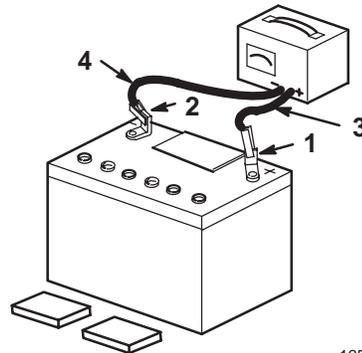

Figure 5
6. Leave the covers off and connect a 3 to 4 amp. battery charger to the battery posts (Fig. 5).
8. When the battery is fully charged, disconnect the charger from the electrical outlet and from the negative and positive battery posts (Fig. 5).